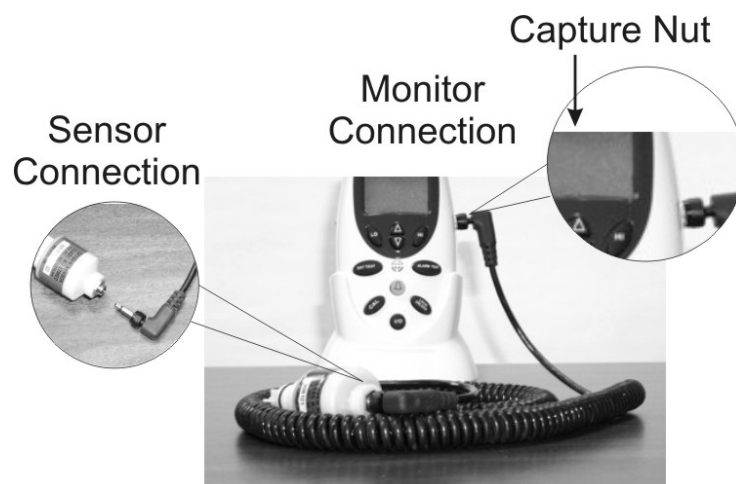

Figure 2-2: Sensor Cable Connection to Monitor
3. Plug the other end of the cable into the receptacle located on the side of the unit and secure it using the capture nut. See Figure 2-2.